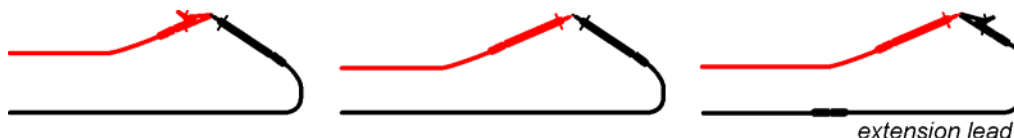

Figure 5.9: Shorted test leads
- ❑ **Connect** test cable to the top of the instrument and short the test leads together (see figure 5.9).